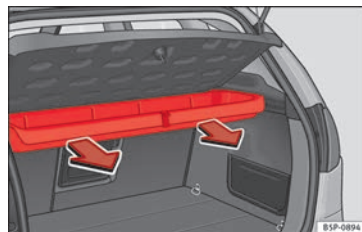

Fig. 104 Removing the storage compartment. »
- Pull outwards until the compartment is freed from the pivot point » Fig. 104.